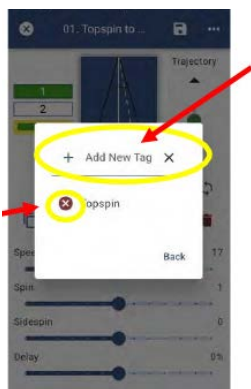

Figure 3-26
5. Type in the Tag word of your choice. You can add over 50 tag words as you like to describe a Drill. (Figure 3-26)
(Figure 3-26)